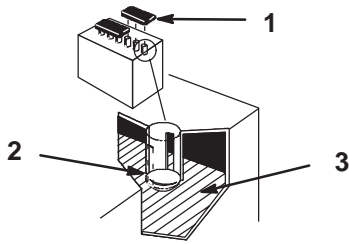

Figure 29
2. Open covers to see into the cells. The electrolyte must be up to the lower part of the tube (Fig. 29).
Important Do not allow the electrolyte to get below the plates. (Fig. 29).
2. Lift off the filler caps (Fig. 29).
3. Slowly pour distilled water into each battery cell until the level is up to the lower part of the tube (Fig. 29).